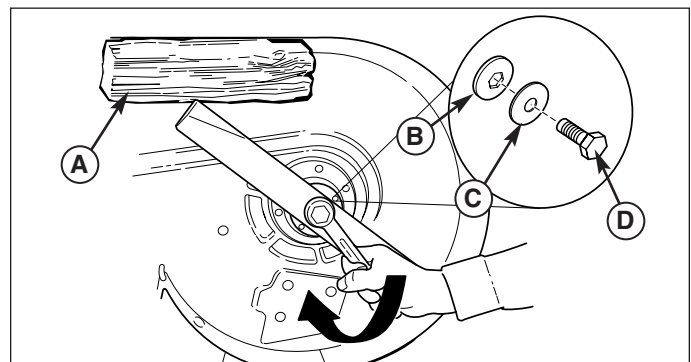

Figure 5. Blade Installation Mowers
5. Reinstall the large washer (B, Figure 5), spring washer (C) and capscrew (D). Use a wooden block (A) to prevent blade rotation while tightening the capscrew (D) to 45-55 ft. lbs. (61-75 Nm).